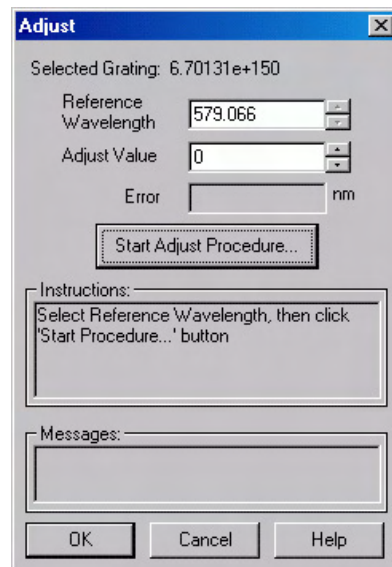

Figure 75. Adjust dialog box
1. Click on the **Adjust** button to open the Adjust dialog box (Figure 75).